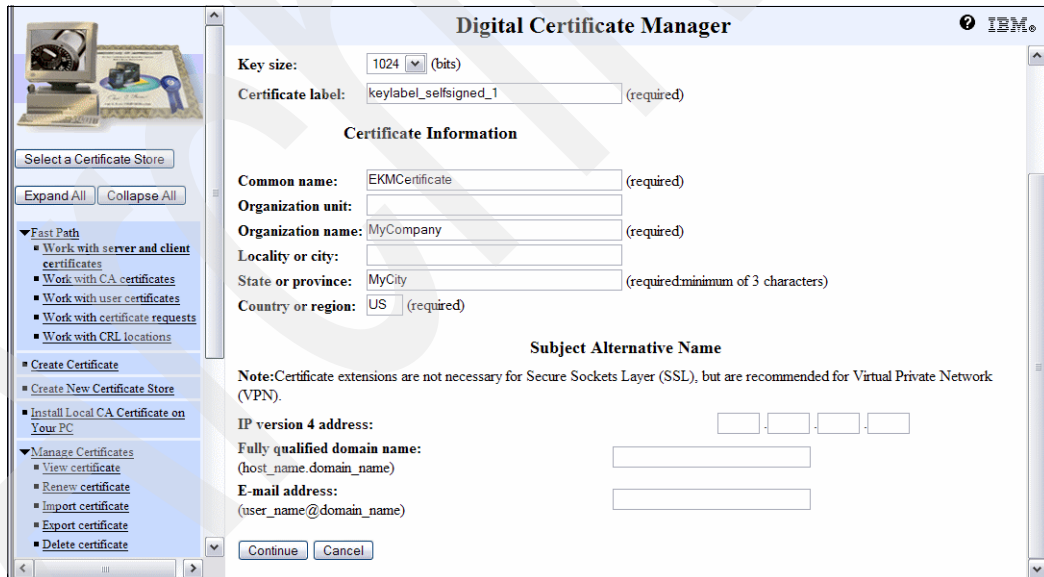

Figure 6-60 Creating the certificate
5. The Create Certificate window is displayed. Select a key size of **1024** and a certificate label, and complete the required fields, as shown in Figure 6-60. Click **Continue**.